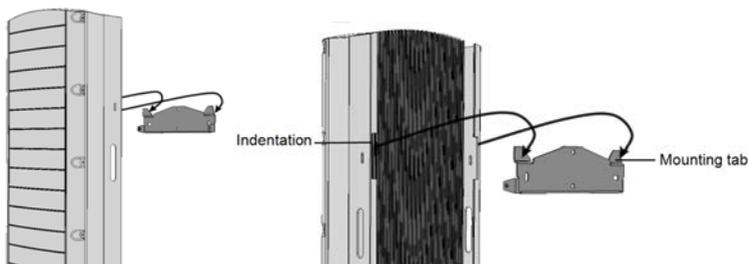

Figure 7: Hanging the inverter on the bracket
- Ensure that the flat edge of the bracket is at the bottom, as in *Figure 7*.
5. Hang the inverter on the bracket (see *Figure 7*): Lift the inverter from the sides, or hold it at the top and bottom of the inverter to lift the unit into place.
7. Insert the two supplied screws through the outer heat sink fins on both sides of the inverter and into the bracket (see *Figure 7*).